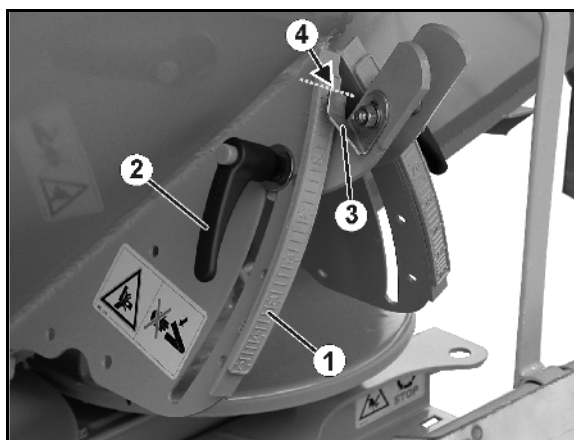

Fig. 65
- (1) An **upper scale** (Fig. 65/1) for the **quantity of fertiliser caught** during the spread rate check, between 3 and 20 kg.
- (2) A **middle scale** (Fig. 65/2) for the desired **spread rate** between 40 and 1300 kg/ha.
- (3) A **lower scale** (Fig. 65/3) for the **slider position** from 7 to 27.